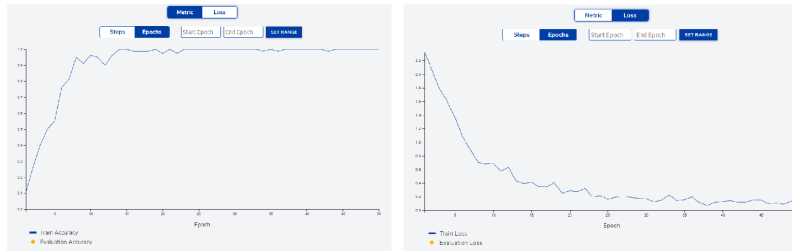

Figure 3.34.: eIQ Portal: accuracy vs. loss function of a trained model
- **Metric:** How accurate the predictions of the current model are (see Figure 3.34., the left-hand part).
- **Loss:** How distant your predictions are from the ground truth (see Figure 3.34., the right-hand part).